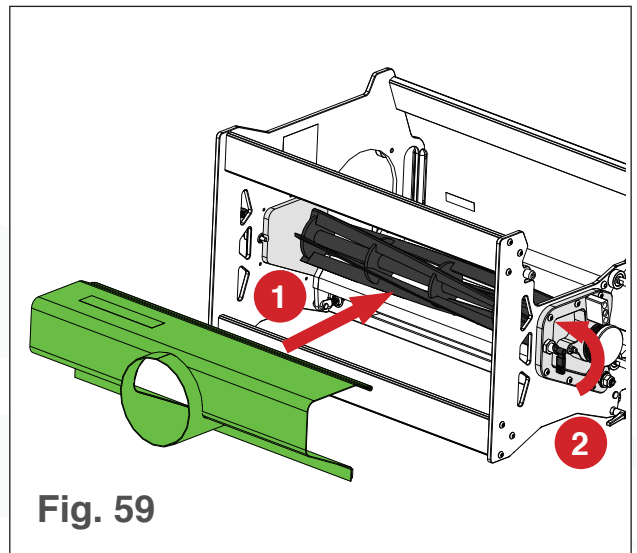

Fig. 59
4. Place the vacuum shroud under the blades and push until it is fully inserted (see Fig. 59).
5. Rotate the vacuum shroud locking pins so they pop out and support the vacuum shroud (see Fig. 59).